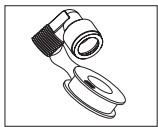

Fig. 6
- 1) Wind several layers of Teflon tape onto connectors thread. Wind the tape in counter clock direction (Fig. 6).